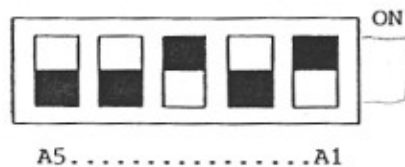

Fig. 3-1
The listener address for the GP-IB system is set on the DIP switch (see Fig. 3-1) located on the GP-IB unit panel. The DIP switch have five bits (A1 to A5). "1" is set when the address switch is turned up (ON) or "0" is set when the switch is turned down (OFF). Set the address before supplying power to the equipment. Address 31 is not listed in Table 3-1 because this address has a specific meaning (UNL,UNT) when bits A1 to A5 are all set to "1".
(Example 1) Fig. 3-1 shows the address 5 setting.